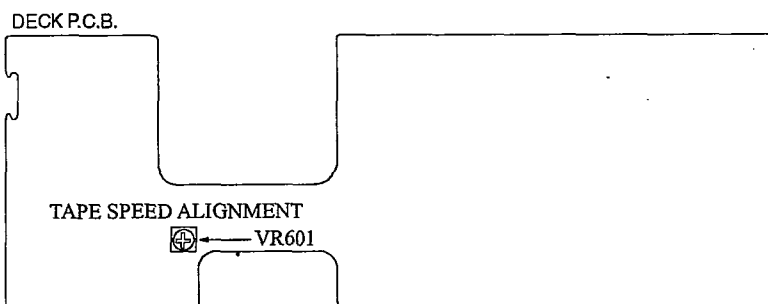

Fig. 6
4. Adjust VR601 for the output value shown in Fig. 6.